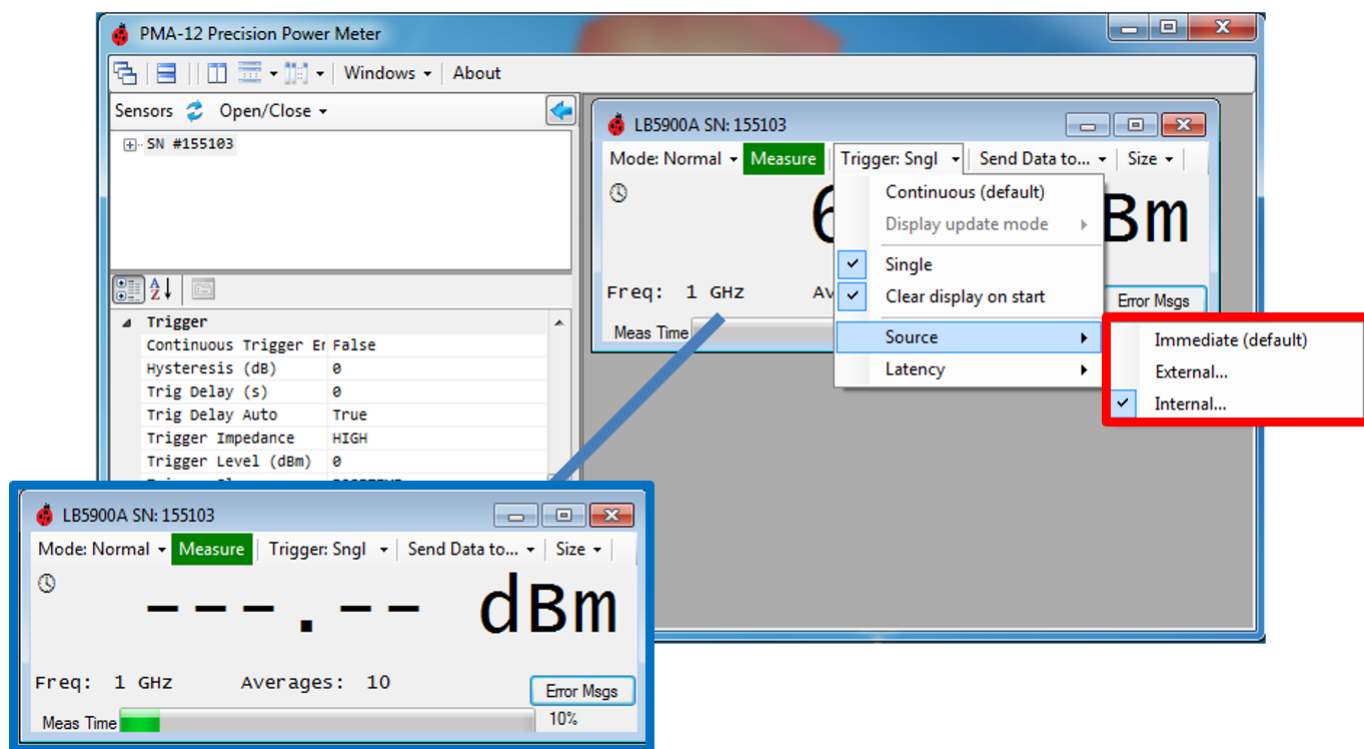

Figure 7 - Triggering Functions
Trigger Delay is a delay after the trigger occurs to allow the measurement to settle prior to sampling. In some cases, particularly where a high number of averages is utilized with Measurement Rate set to Normal in order to measure a low level signal, it may be desirable to set Trigger Delay manually. To do this, first determine the amount of delay required, the sensor will accept delays up to 150ms. Referring to Figure 7, in the *Trigger* section of the Detail Pane, set *Trig Delay Auto* to *False*, and place the required delay (in seconds) in *Trig Delay (s)*.
4. In the Sensor Window, set the trigger to Single (The green *Measure* Icon will show - Figure 7)
5. Set the trigger source to Internal (Figure 7 red inset or Detail Pane)
6. Set *Clear display on start* in the *Trigger* dropdown of the sensor window (Figure 7)
7. Click *Measure* the green *Meas Time* bar begins to move (Figure 7, blue inset)
4. In the Sensor Window, set Trigger to Continuous (Figure 7 top)
5. In the Sensor Window, set the trigger source to Internal (Figure 7 red inset or Detail Pane)
3. In the Sensor Window, set the trigger to Single (The green *Measure* Icon will show Figure 7)
4. Set the trigger source to External (Figure 7 red inset or Detail Pane)
6. Click *Measure* the green *Meas Time* bar begins to move (Figure 7, blue inset)